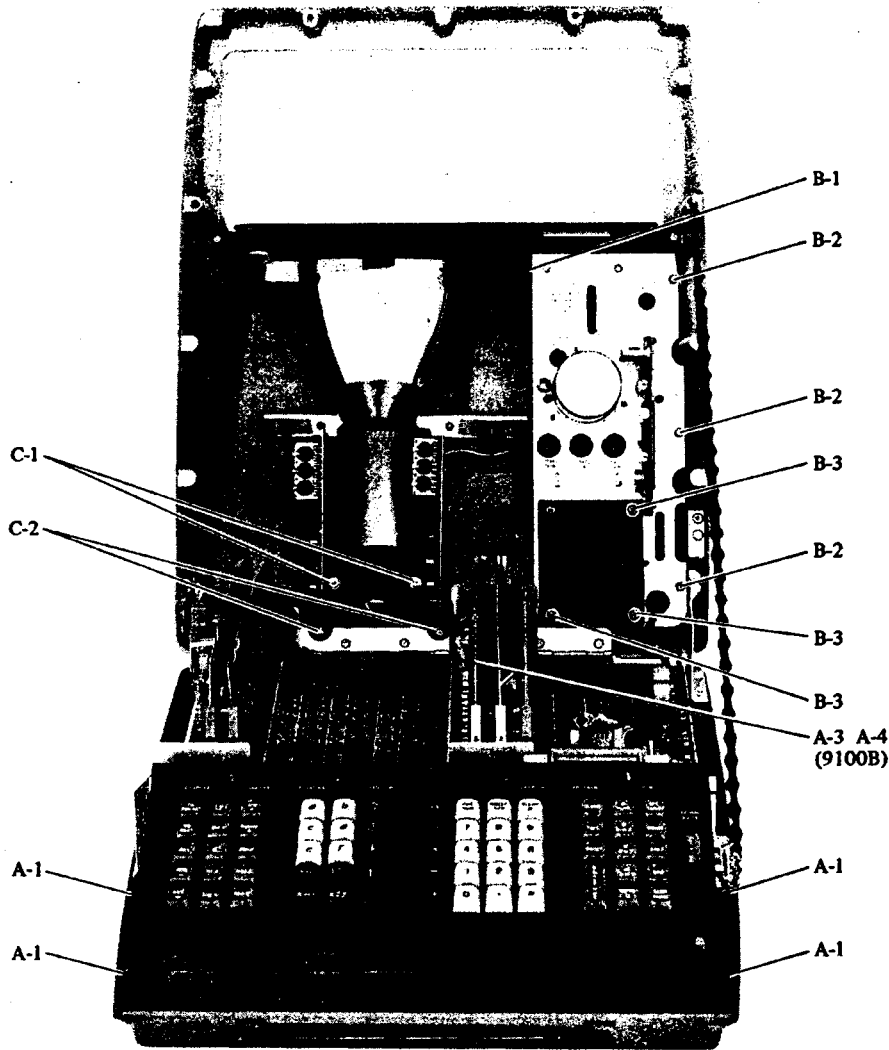
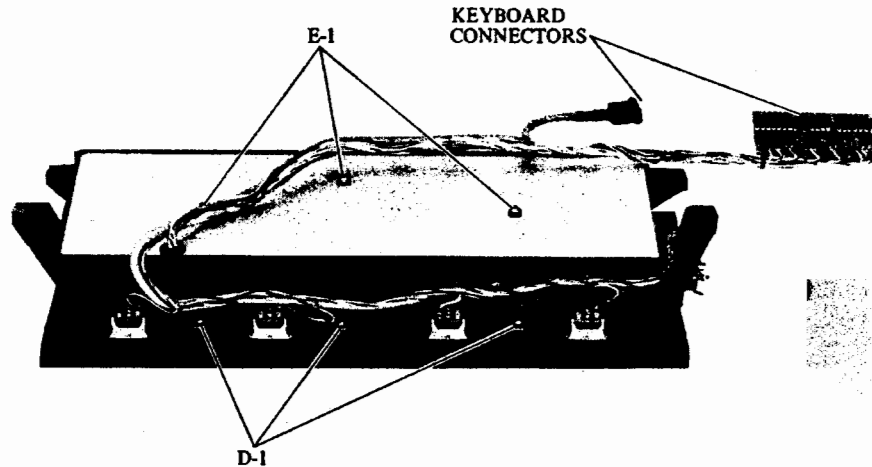

Figure 4. Location of Assembly Mounting Screws
Figure 5. Keyboard Bezel Mounting Screws
3. Remove the screws (4) holding the keyboard (A in fig. 4), lift the keyboard out and disconnect the keyboard connectors (see fig. 5) from the calculator.
4. Remove the screws (3) holding the keyboard (D in fig. 5) and remove the bezel.
15. Remove the screws (7) (B in fig. 4) holding the power supply assembly. Lift the power supply assembly and turn it on its side.